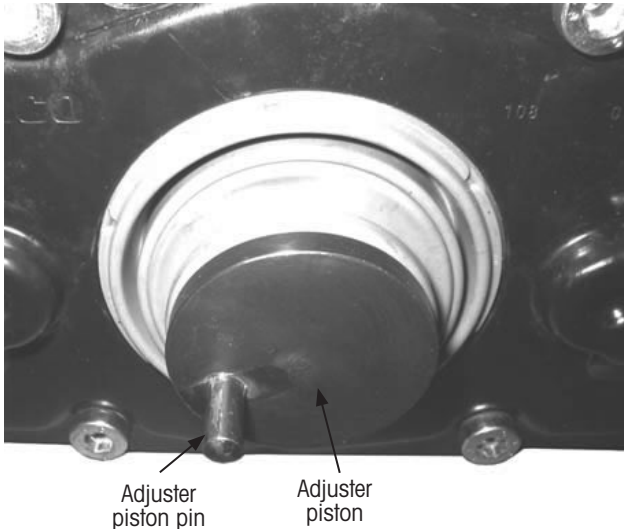

Figure 29: Adjuster piston rotation with pin
1. While checking the adjuster, **restrain** the adjuster piston pin to prevent rotation and damage to the adjuster piston boot (Figure 29).